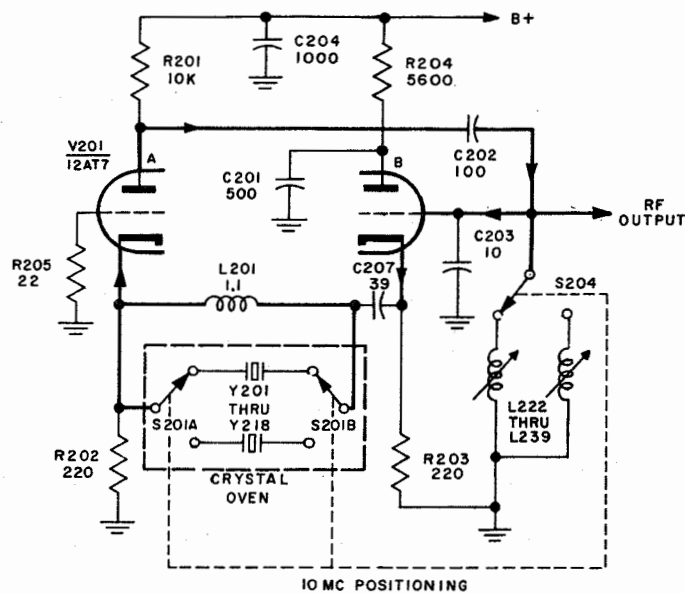

Figure 4-27. Radio Transmitter T-217A/GR, Main Oscillator, Simplified Schematic Diagram
(2) MAIN OSCILLATOR.—A simplified schematic diagram of the main oscillator is shown in figure 4-27. This circuit, employing a Butler circuit, includes V201, a bank of 18 type CR-32/U crystals with a crystal switch all inside a temperature-controlled crystal oven, a bank of 18 coils with an associated switch, and other circuit elements. The oscillator con-